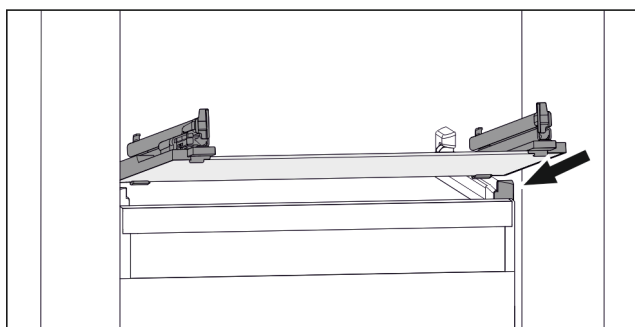

Fig. 177 Example illustration of glass shelf
- Position glass shelf at an angle behind the stoppers. (see Fig. 177)